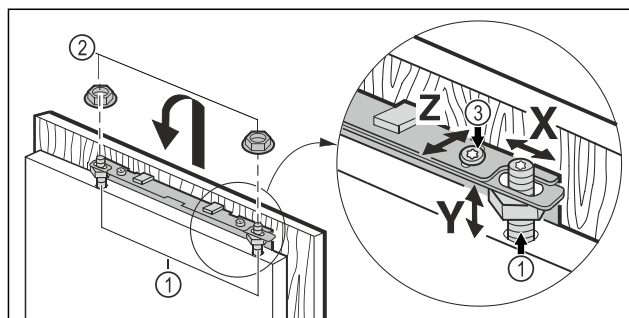

Fig. 22
- Hang the unit door on the adjustment bolts Fig. 22 (1) and screw the lock nuts Fig. 22 (2) loosely onto the adjustment bolts.
- Align the height Y and lateral inclination of the unit door: Set the adjustment bolts Fig. 22 (1) with a screwdriver.
- Tighten the lock nuts Fig. 22 (3).